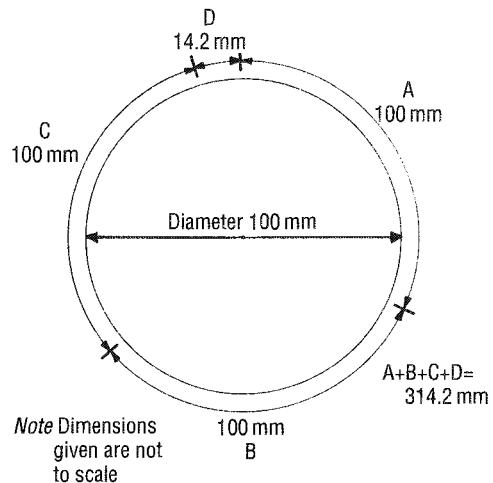

Fig. 9.2 Diameter and circumference.
- The circumference is needed (the distance all the way around the outside of the wheel) and by measuring the diameter we can calculate it. Circumference = $\pi \times \text{diameter}$, where π is the symbol used to denote 3.142 (or pi) which is simply the number of diameters needed to wrap around the circumference (**Fig. 9.2**).